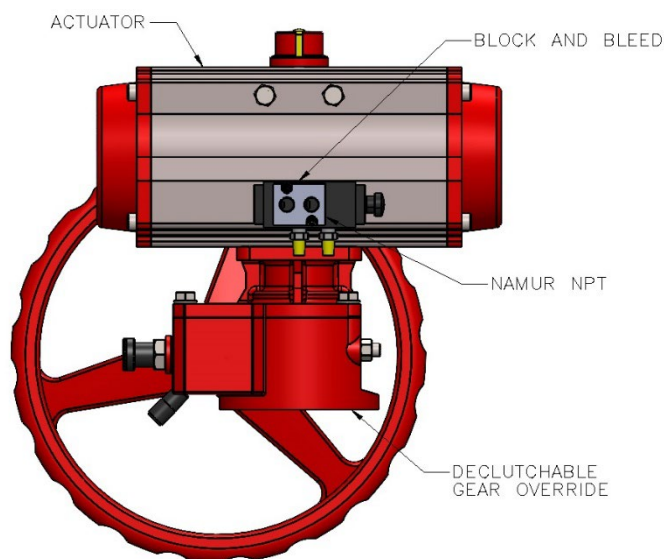

Figure 2
4. Drawing P1984 (shown on the last page of this document) shows the mounting orientation for the standard solenoids furnished by A-T Controls. Figure 2 shows the actuator with the NPT plate installed with the Block & Bleed Valve.
9. Push the knob in on the block and bleed valve shown above in Figure 2. This is the remote (disengaged) position for the block and bleed valve.
10. Place the DGO in the remote (disengaged) operating position. This is with the lever down shown in Figure 2.
6. Push the knob in on the block and bleed valve to return to the remote operation (See Figure 2).